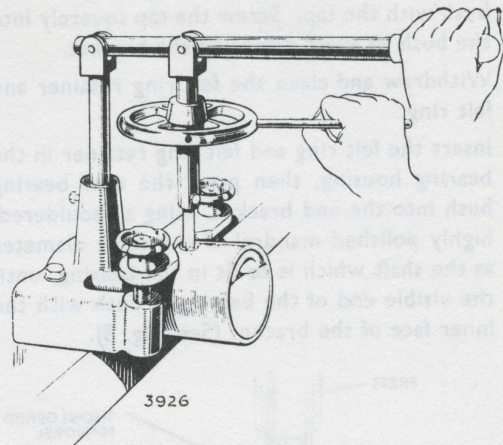

Fig. 7. Unscrewing pole retaining screws
5. Unscrew the two pole shoe retaining screws by means of a wheel-operated screwdriver (See Fig. 7).